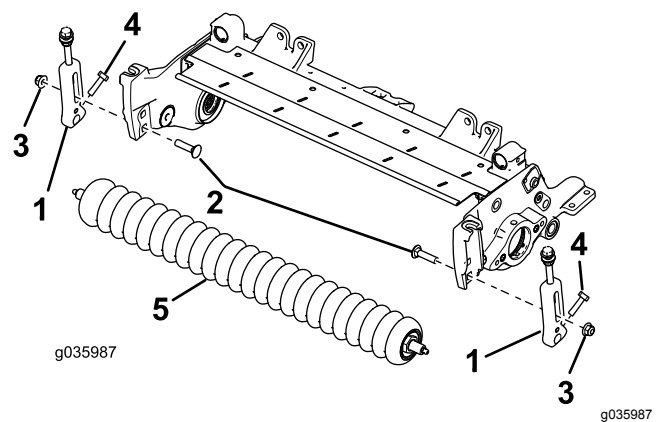

Figure 5
6. Remove the carriage bolts and locknuts securing the height-of-cut (HOC) brackets to the cutting-unit side plates (Figure 5).
7. Loosen the screws securing the height-of-cut brackets to the front-roller shaft (Figure 5).
8. Remove the existing height-of-cut brackets and the front roller from the cutting-unit side plates (Figure 5).